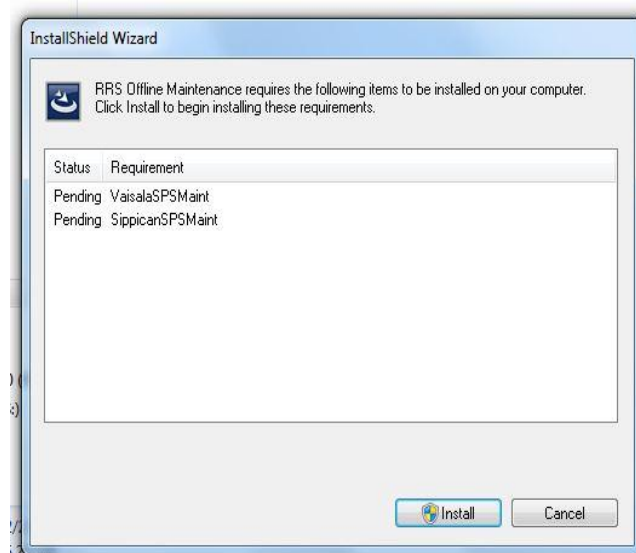

Figure C-3: InstallShield Wizard with Both Vaisala and Sippican Maintenance Displayed
9. The *InstallShield Wizard* display will appear. (The program will display and extract both Vaisala SPS and Sippican SPS Maintenance Programs, but will install Vaisala first). Click **Install** (Figure C-3).